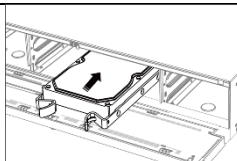

Figure 2-6 Insert HDD
Step 3 Insert the HDD until it is firmly fixed. Refer to Figure 2-6